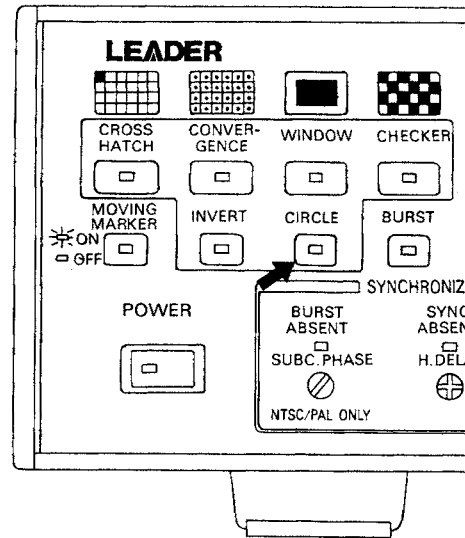

Figure 4.5
4.2.4 Circle Patterns (See Figure 4.5)